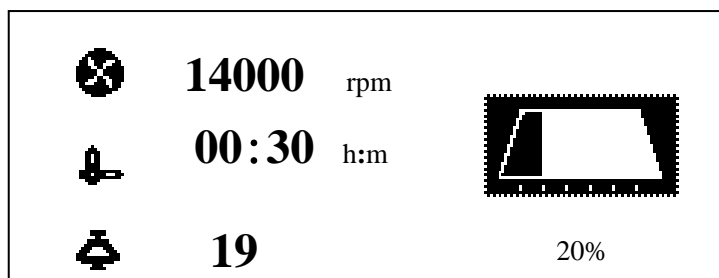

Figure 7-4 Processing Screen
(2) Press  button again to start running.
- After accelerating for 8 seconds, the interface will display the processing screen, see the Figure 7-4.